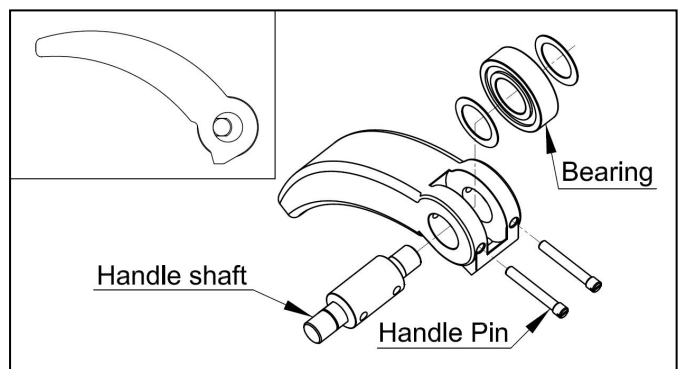

Fig. 9-9
- (9) Remove the bearing by using a small flathead screwdriver to take out the two handle pins, slide out the handle shaft, as shown in **Fig. 9-9**.